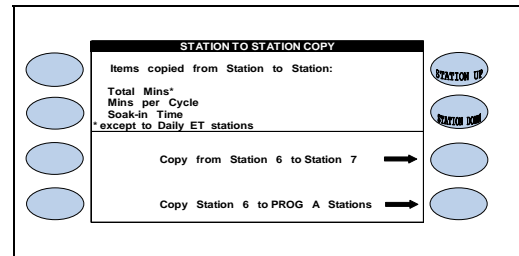

Figure 3.3
The STATION TO STATION COPY screen is displayed (Figure 3.3).
1.  At the Station To Station Copy screen press the **PLUS** or **MINUS** key until the station you want to copy is highlighted. (station 6 was selected in figure 3.3).